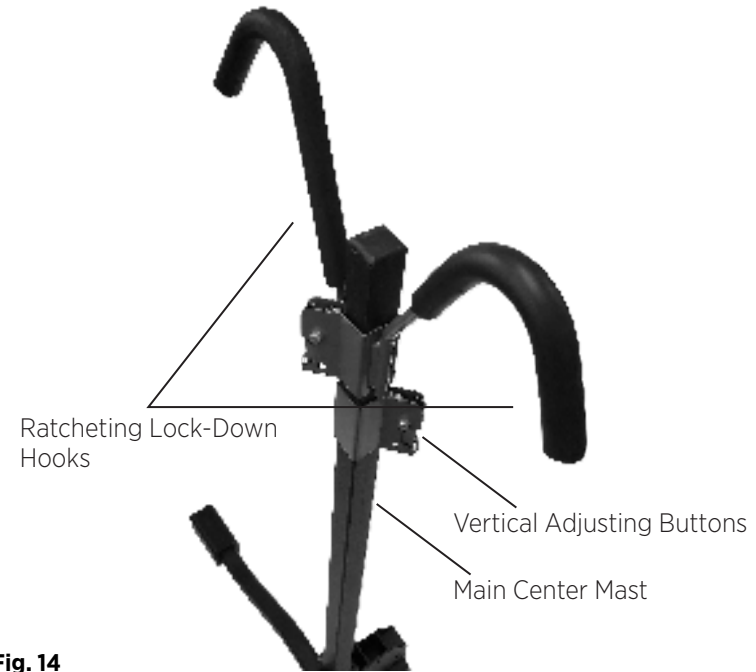

Fig. 14
1. Locate the 2 – Ratcheting Lock-Down Hooks. These hooks ratchet down the vertical Center Mast and secure the frame(s) of the bicycle(s) to the rack **(Fig. 14)**.